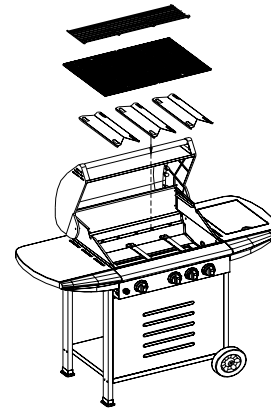

Figure 14
1. Evenly space cooking grids on the ledge above flame tamers. (Fig.14)
2. Place warming rack into the holes of the upper left and upper right of grill bowl side panels. (Fig.14)